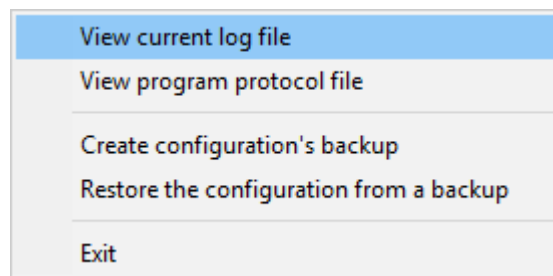

Fig. 1.1.2. "File" menu item
- The main menu above the toolbar allows you to edit the program settings ⁷ ("Options -> Program settings..."), manage configurations, open the current logfile from the "File" menu (fig. 1.1.2).